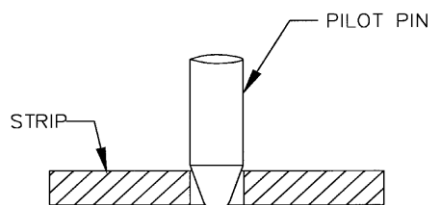
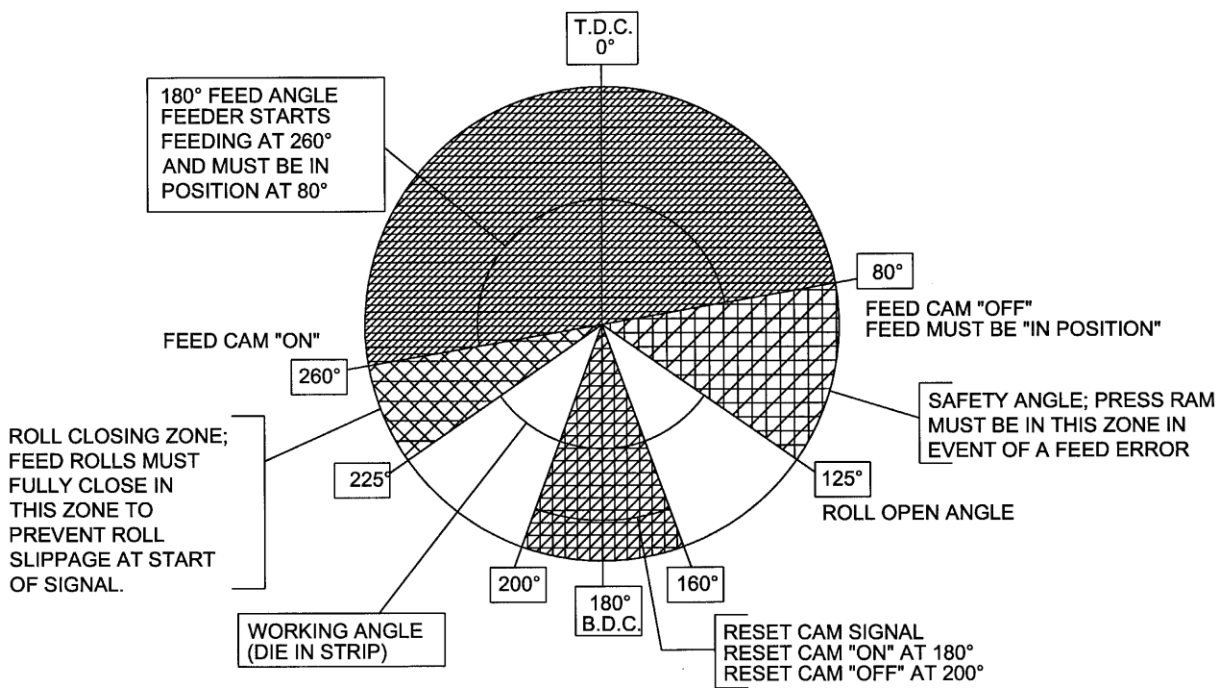

FIGURE 4
FIGURE 5
7. Jog the press down slowly observing when the longest pilot would engage the pilot hole in the material if the material were there. (Refer to Figure 4.) Note the press positional readout and put this setting into your Programmable Limit Switch (PLS) for the '**Pilot Release On**' setting. The '**Pilot Release Off**' setting, in most cases, should be 180°. (See Figure 5.) Some drawing applications require the rolls to remain open past 180°.
8. Continue to jog the press slowly until the longest pilot just comes out of the material. Note the press positional readout and put this setting into your PLS for the '**Feed Cam On**' setting. Set the '**Feed Cam Off**' point so that there is enough time to complete the feed length and enough time to stop the press, if there is a feed fault. (See Figure 5.)
9. Set the '**Reset Cam On**' for 180 degrees and '**Reset Cam Off**' for 200 degrees. This setting should never need changing. (See Figure 5.)